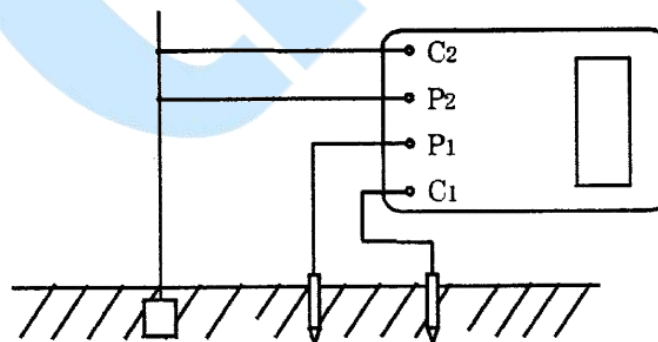

Figure 4
2. When measuring protective grounding resistance, it is necessary to disconnect the connection point between electrical equipment and power supply. When measuring grounding resistance less than  $1\Omega$ , special wires should be connected to the grounding body separately. C2 is on the outside and P2 is on the inside as shown in Figure 4.